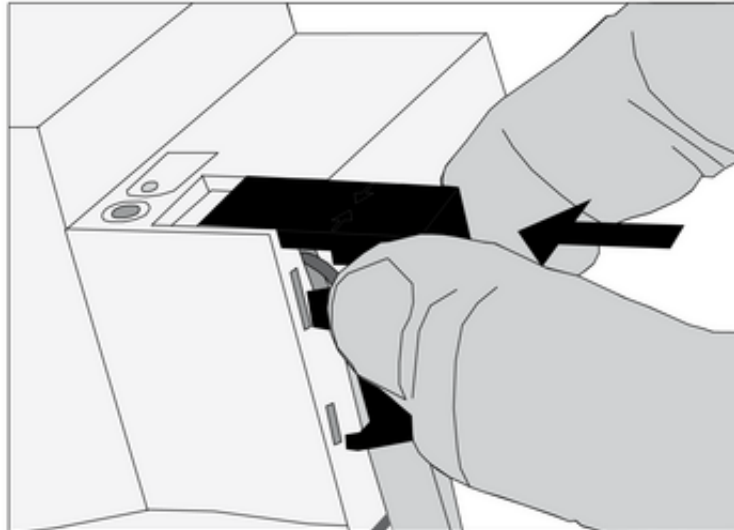

Figure 3: Installing the cover
- Install cover on top of the bus terminal so that it snaps into place (Figure 3).